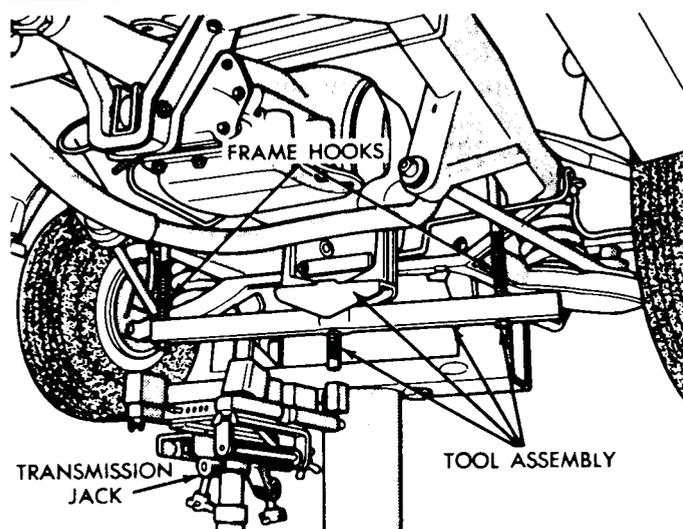

Fig. 1—Engine Support Fixture (Typical)
(8) Loosen oil pan bolts, tap the pan to break it loose allowing fluid to drain.
(9) Reinstall pan.
(10) Mark torque converter and drive plate to aid in reassembly. The crankshaft flange bolt circle, inner and outer circle of holes in the drive plate, and the four tapped holes in front face of the torque converter all have one hole offset so these parts will be installed in the original position. This maintains balance of the engine and torque converter.
(11) Rotate engine clockwise with socket wrench on vibration dampener bolt to position the bolts attaching torque converter to drive plate, and remove bolts.
(12) Mark parts for reassembly then disconnect propeller shaft at rear universal joint. Carefully pull shaft assembly out of the extension housing.
(13) Disconnect wire connector from the back-up lamp and neutral starting switch and lockup solenoid wiring connector.
(14) Disconnect gearshift rod and torque shaft assembly from transmission.
(15) Disconnect throttle rod from lever at the left side of transmission. Remove linkage bellcrank from transmission, if so equipped.
(16) Remove oil filler tube and speedometer cable.
(17) Install engine support fixture, Tool C-3487-A with frame hooks or a suitable substitute, that will support rear of the engine (Fig. 1).
(18) Raise transmission slightly with service jack to relieve load on the supports.
(19) Remove bolts securing transmission mount to crossmember and crossmember to frame, then remove crossmember.
(20) Remove all bell housing bolts.
(21) Carefully work transmission and torque converter assembly rearward off engine block dowels and disengage torque converter hub from end of crankshaft. **Attach a small C-clamp to edge of bell housing to hold torque converter in place during transmission removal.**
(22) Lower transmission and remove assembly from under the vehicle.